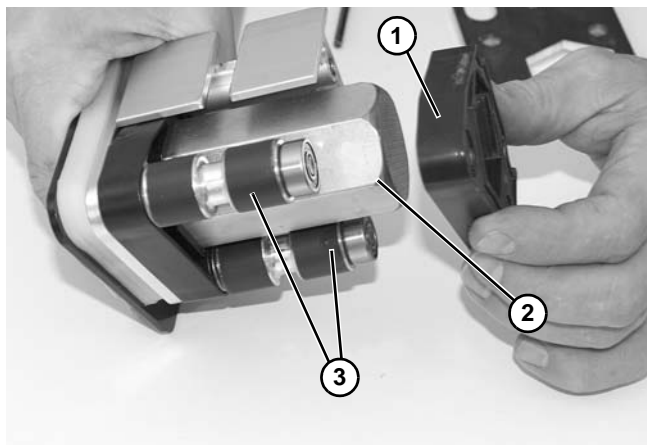

Figure 93
6. Slide spindle retainer (**Figure 93, item 1**) off of the hex shaft (**Figure 93, item 2**) to access spindles.
7. Remove spindles (**Figure 93, item 3**).